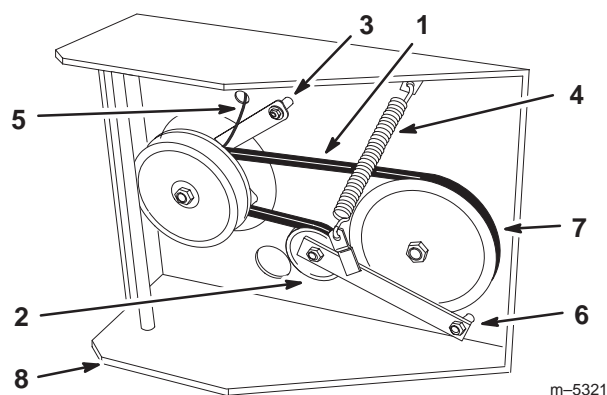

Figure 60
4. Remove clutch retainer from the engine deck (Fig. 60).
5. Unhook tension spring from side of frame (Fig. 60).
8. Torque pivot bolt to 35-40 ft. lb. (47-54 N.m). Install tension spring between idler arm and frame bracket (Fig. 60).
9. Install clutch retainer to the engine deck (Fig. 60).